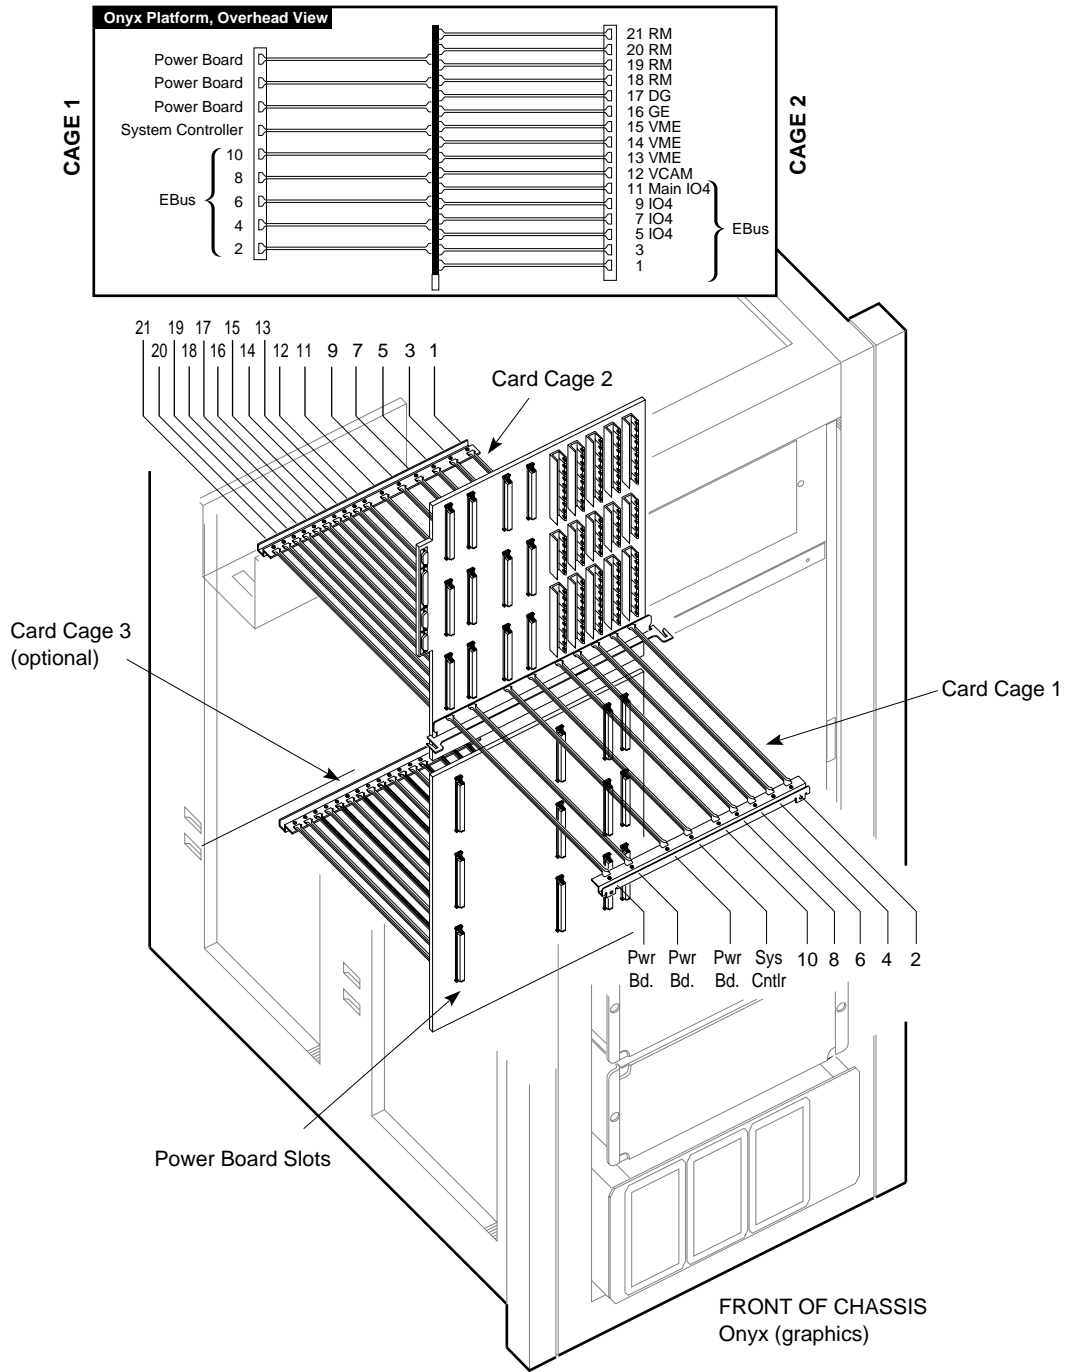
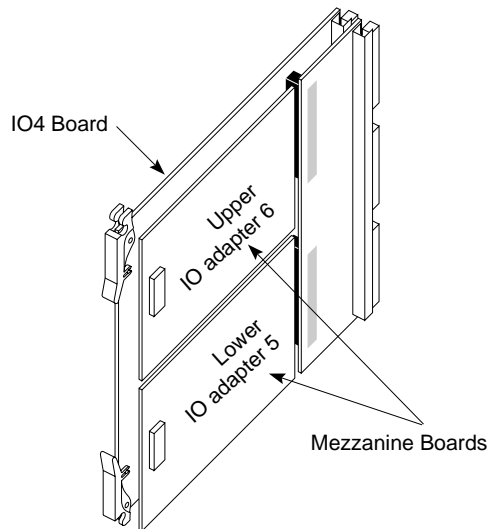

Figure 2-19 Onyx Rackmount Slots for IO4 Boards
Figure 2-20 Upper and Lower Mezzanine Slots on IO4 Boards
7. Open the back door and pull down the I/O panel for card cage 2 to expose the IO4 boards and VMEBus slots, as illustrated in Figure 2-19.
Locate the IO4 boards that are currently installed. Slot 11 always has an IO4 board. (See Figure 2-19 for an illustration of the slots.) In addition, slots 9, 7, and/or 5, may contain IO4 boards. An Onyx Rackmount may have one to four IO4 boards installed. Each IO4 board has two mezzanine slots, as illustrated in Figure 2-20. The ATM board may be installed on any of the available mezzanine slots, as detailed below:
- If the system has only one IO4 board, this is the location for the IRIS ATM board. The ATM board may be installed in either the upper or lower position on the IO4 board, as illustrated in Figure 2-20.